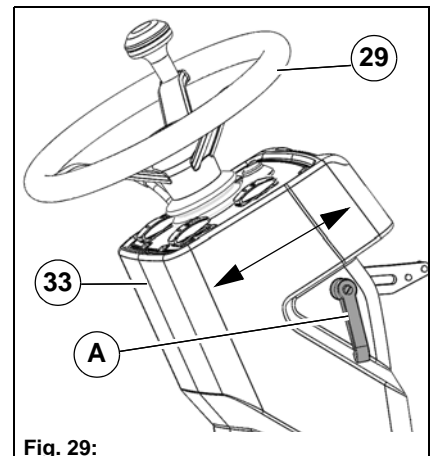

Fig. 29:
- Turn the lever **Fig. 29-A** counter-clockwise until the steering column is unlocked.